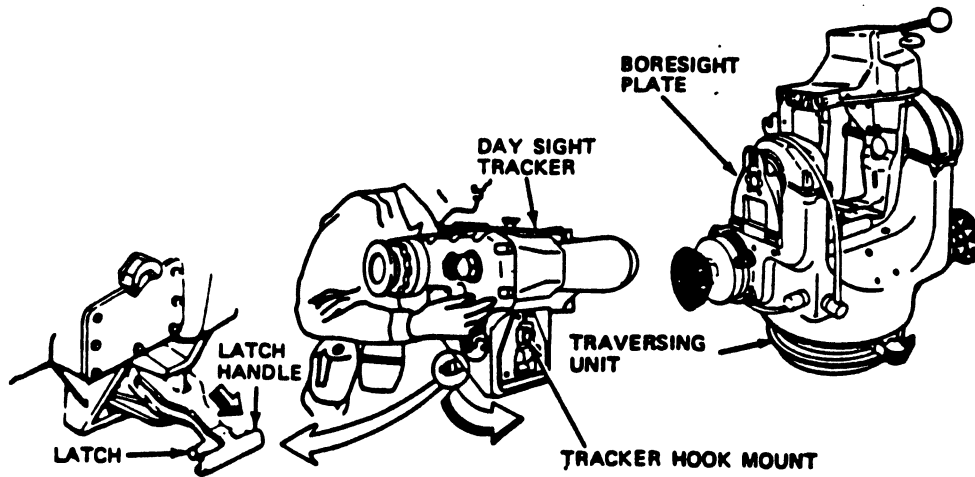

Fig 2-26. Installing day sight tracker.
Step 1. Hold the tracker with the tracker hook mount in line with the traversing unit boresight plate. Press and hold the latch in toward the latch handle. push the latch handle all the way down and release (fig 2-26).